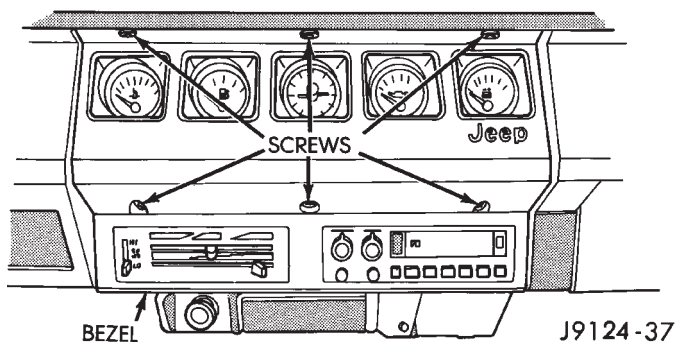

Fig. 4 Instrument Cluster Bezel
- (1) Remove the instrument cluster bezel attaching screws (Fig. 4).
- (2) Remove the instrument cluster bezel.
- (3) Remove the screws attaching the heater control panel to the instrument panel.
- (4) Slide the control panel outward and disconnect the cables, vacuum hoses and electrical wires from the control panel.
- (5) Remove the control panel.